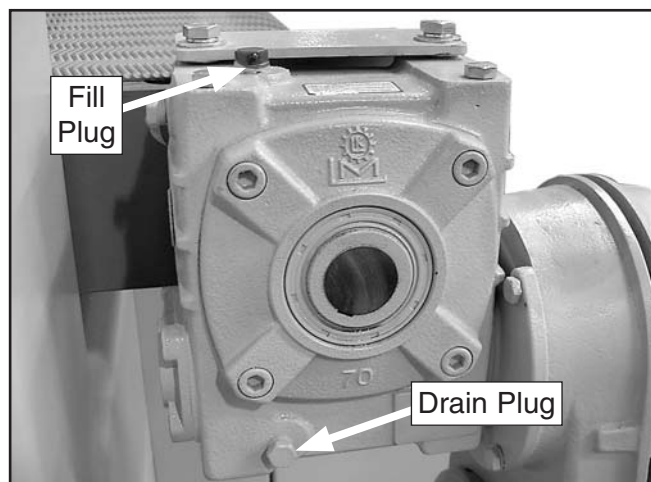

Figure 44. Lubricating gear box.
Replace the feed belt gear box oil (**Figure 44**). We recommend 80-90 Wt. gear oil or ISO-VG320 oil.
1. With the oil and gear box warm, remove the fill plug (**Figure 44**), remove the drain plug, drain the oil, and re-install the drain plug.